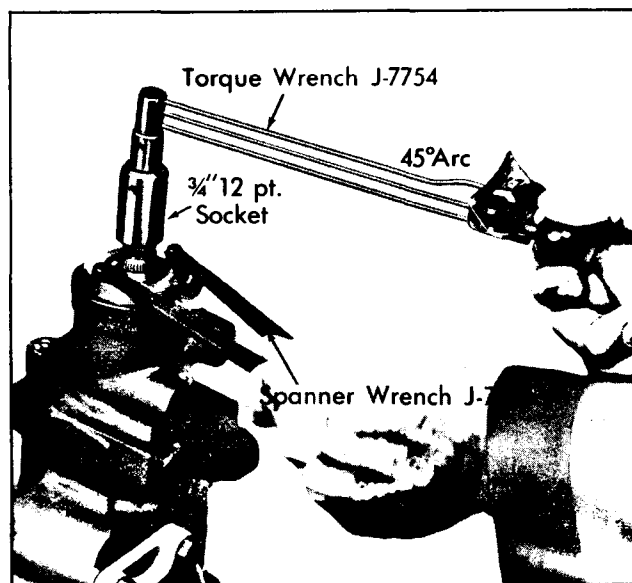

Figure 54-Adjusting Thrust Bearing Preload
7. Tighten adjuster plug until torque to turn stub shaft is 3-4 lb. in greater than drag torque (with lock nut tightened). See Figure 54.